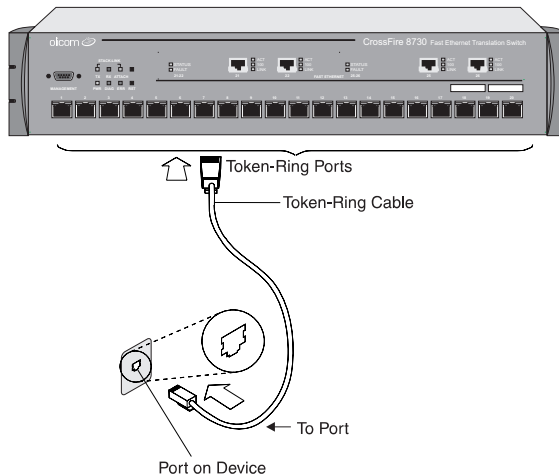

Figure 6. Connecting Devices to Token-Ring Ports
1. Using the Switch Cabling Chart provided by your network administrator as a guide, connect the cables between the switch and other devices as illustrated in Figure 6. Note that the figure illustrates an RJ-45 connector on each end. Depending on the cable type you use, the device end of the cable may also have a 9-pin D-shell or 150 ohm Data Connector.